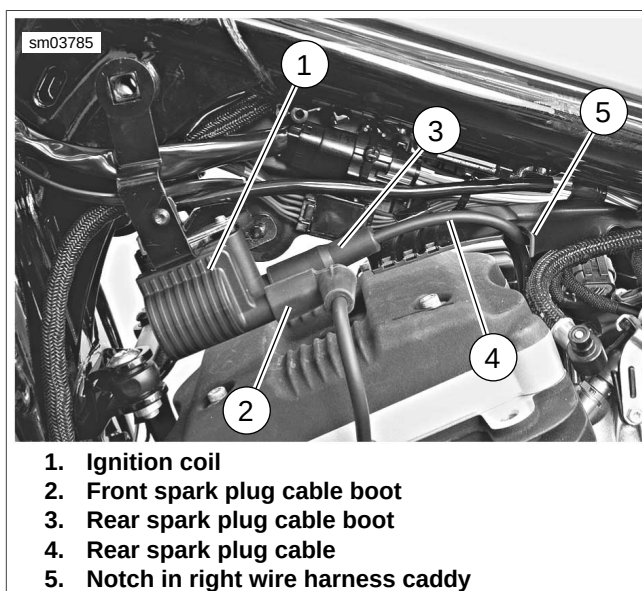
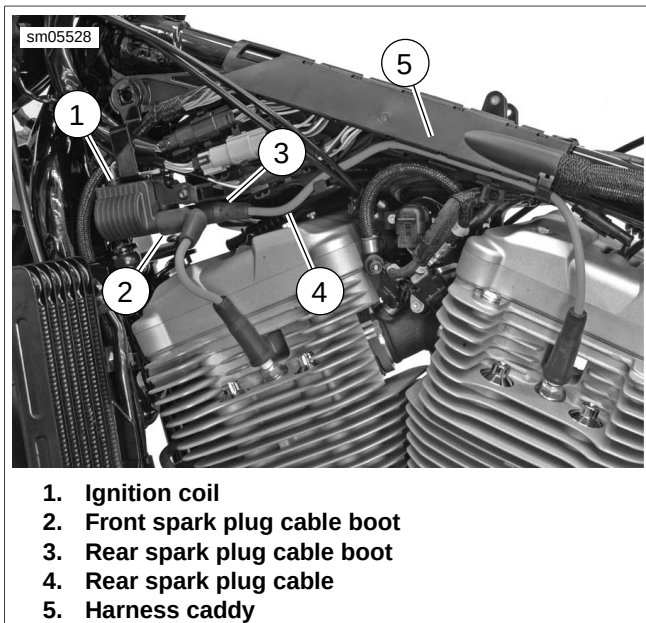
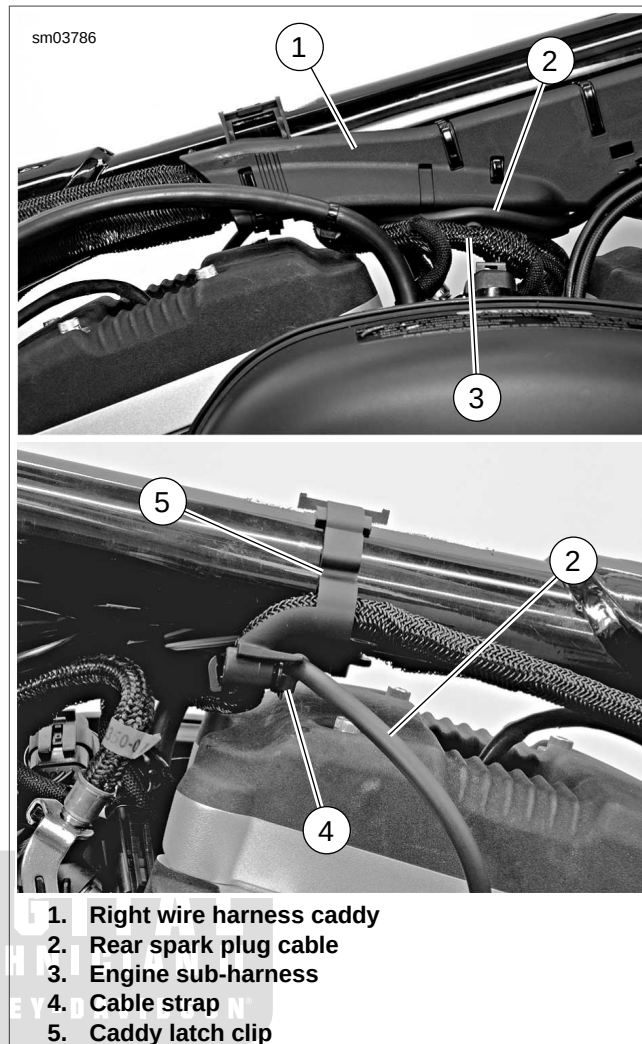

Figure 6-43. Spark Plug Cable Routing (XL Models Only)
Figure 6-44. Spark Plug Cable Routing (XR Models Shown)
Figure 6-45. Rear Spark Plug Cable Routing (XL Models Only)
6. See Figure 6-43 or Figure 6-44. Pull front spark plug boot and cable (2) from left side ignition coil (1) tower.
7. Pull rear spark plug boot (3) and cable from right side ignition coil tower.
9. **XL models only:** Disengage rear spark plug cable from notch in right wire harness caddy (5) and remove cable from vehicle.
10. **XR models only:** See Figure 6-44. Disengage rear spark plug cable from wire harness caddy (5) and remove cable from vehicle.
11. **XL models only:** See Figure 6-45. Remove rear spark plug cable (2) from curved trough on wire harness caddy (1). Cut cable strap (4). Feed spark plug cable out from between frame and engine and remove cable from vehicle. Remove cable strap from mounting boss on caddy latch clip (5). Discard cable strap.
1. See Figure 6-43 or Figure 6-44. Plug rear spark plug cable boot (3) into right side ignition coil (1) tower.
2. **XL models only:** Route cable between wire harness caddies, and down through notch (5) in right caddy, toward right side of engine.
3. **XR models only:** Route rear spark plug cable through harness caddy (5) as shown.
4. **XL models only:** See Figure 6-45. Route rear spark plug cable (2) in trough in right wire harness caddy (1), over top of engine sub-harness (3) and back toward left side of engine.
7. See Figure 6-43 or Figure 6-44. Plug front spark plug cable and boot (2) into left side ignition coil (1) tower. Plug other end of cable onto front spark plug until it clicks.